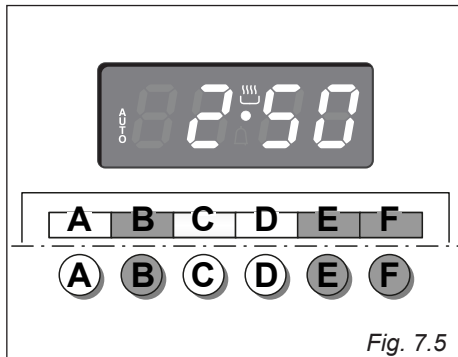

Fig. 7.5
1. Set the length of the cooking period by pushing the “B” button and the “F” button to increase or “E” to decrease if you have passed the desired time (fig. 7.5). The **AUTO** and the  symbol will illuminate.